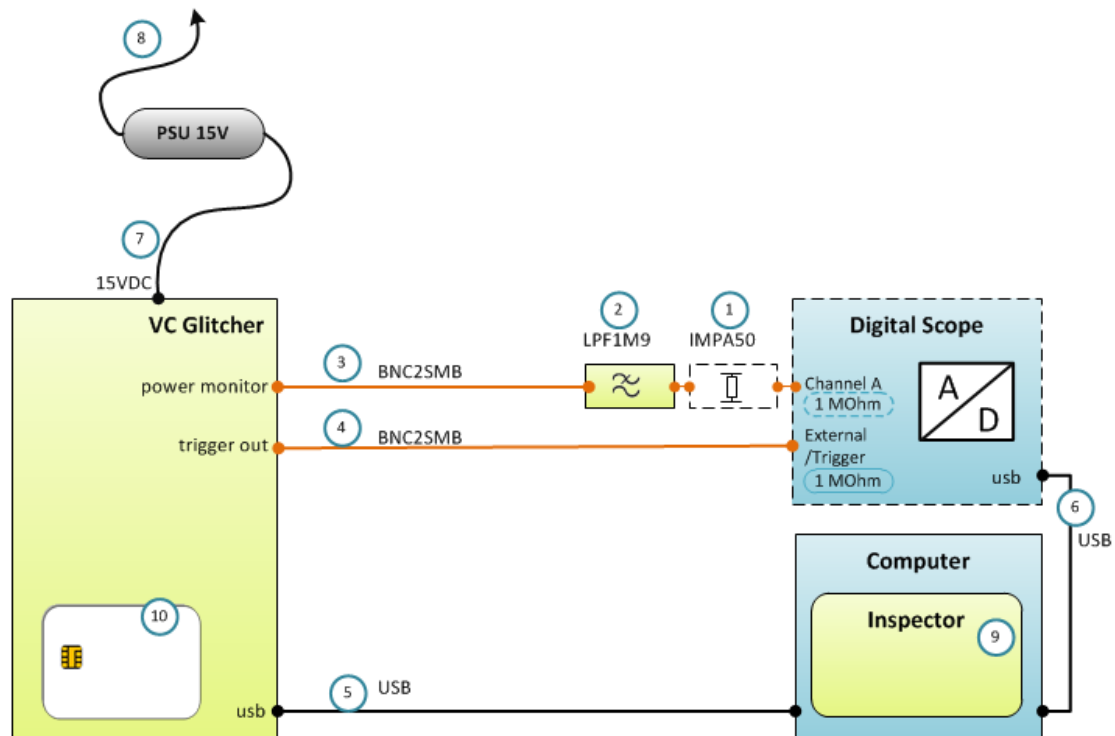

Figure 7 Order of connections for a typical VC Glitcher setup.
- Build the setup according to Figure 7.